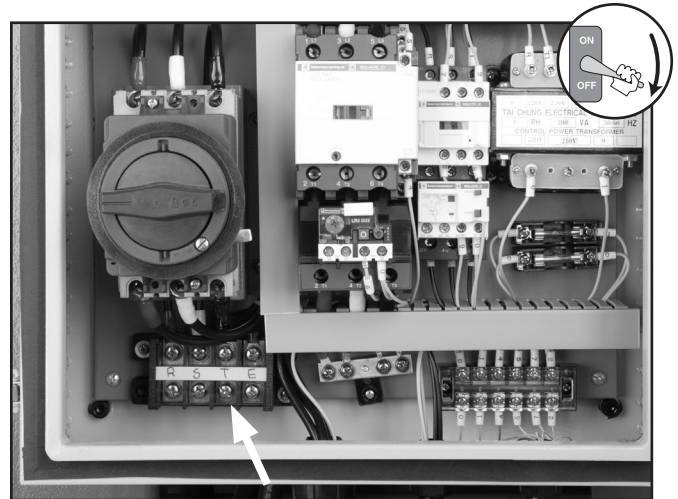

Figure 23. Main terminal.
2. Connect the power wires to the main terminal shown in **Figure 23**.